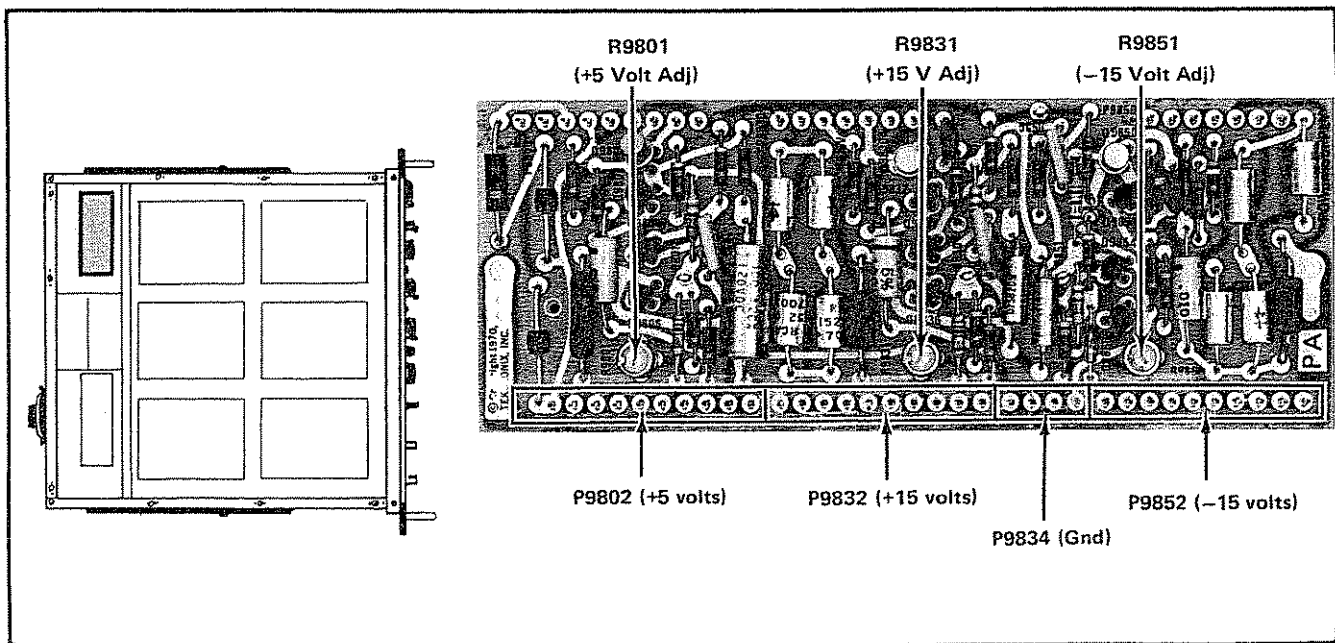

Fig. 4-5. Power Supply test point and adjustment locations.
a. Connect a precision dc voltmeter between chassis ground (pin 1 of P9834) and P9852 (-15 V), see Fig. 4-5.